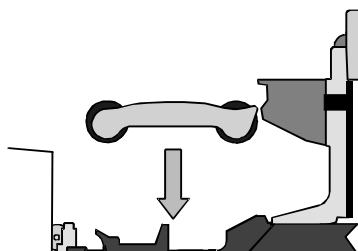

Figure 2-9: Replace the print ribbon cartridge
- 1 Place the ribbon cartridge onto the ribbon cartridge supports (see Figure 2-9). Make sure the cartridge is securely seated. Avoid touching the printhead cartridge and ribbon tracker.